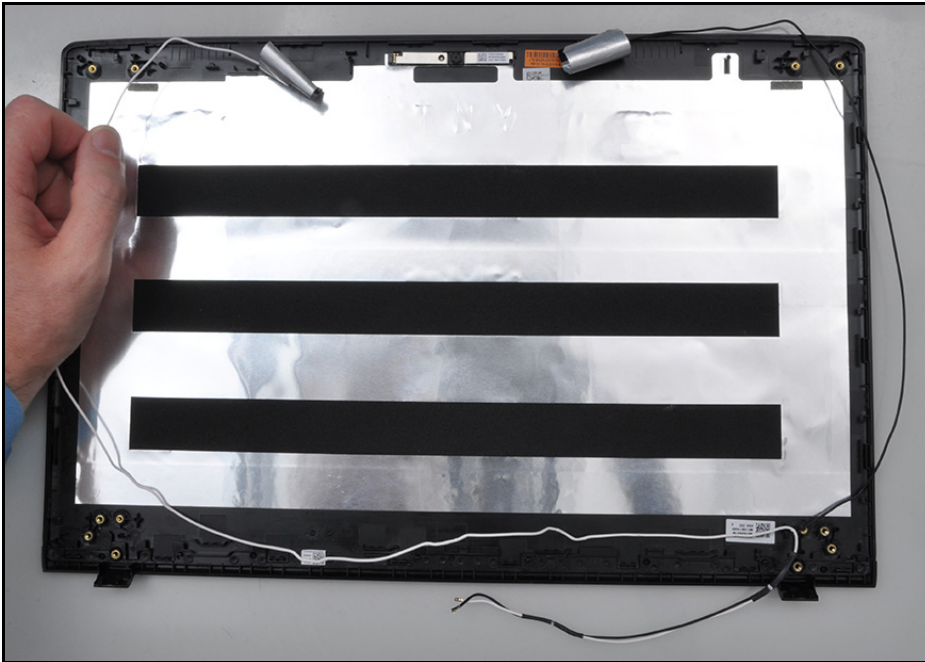

Figure 3-69. WLAN Antenna Removal
4. Remove the WLAN antennas from the LCD cover (Figure 3-69).